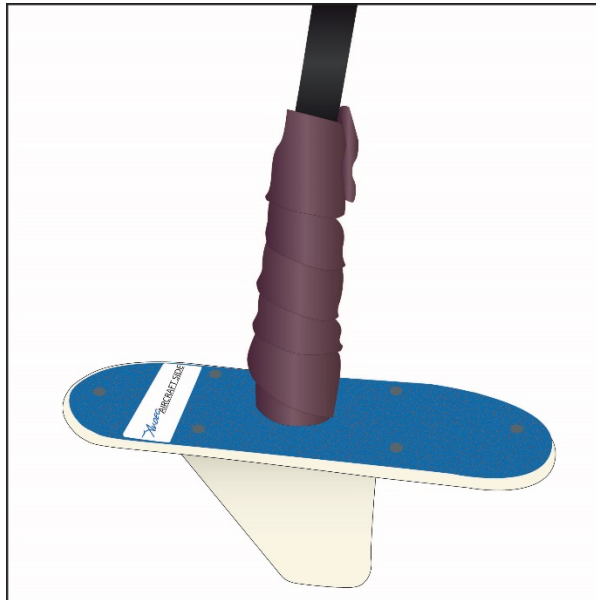

Figure 4
- 3) Coverage shall be from the base of the antenna to at least ½” beyond the connector and onto the insulation jacket of the coax cable. Trim excess StretchSeal® if necessary. *(Figure 4)*